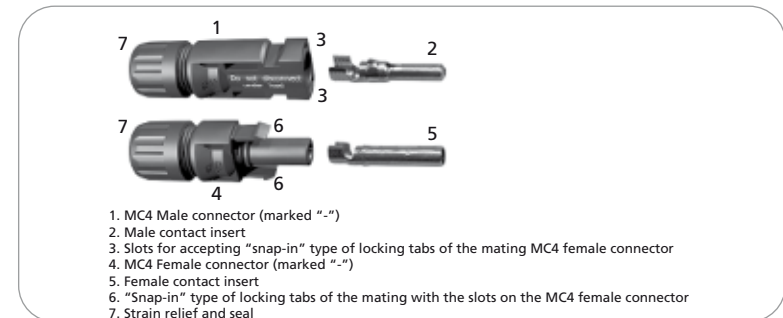

Fig. 1 . MC4 Male and Female Connectors
### MC4 Connectors (Fig. 1)
In the MC4 Male Connector (1 of Fig. 1), the internal mating contact insert (2, Fig. 1) is a male pin. It has two slots (3 of Fig. 1) for insertion of the two "snap-in" type of locking tabs (6 of Fig. 1) of the MC4 Female Connector (4 of Fig. 1) for firm mating connection. This connector is marked "-".
In MC4 Female Connector (4, of Fig. 1), the internal mating contact insert (5 of Fig. 1) is a female cylindrical socket. It has two "snap-in" type of locking tabs (6 of Fig. 1) that are inserted into the two slots (3 of Fig. 1) in the MC4 Male Connector (1 of Fig. 1) for firm mating connection.
Wire is crimped to the contact inserts (2 and 5 of Fig. 1) using a special purpose crimping tool designed for MC4 connectors. After the wire has been crimped, the contact insert is required to be seated securely inside the housing and the strain relief / seal (7 of Fig. 1) is to be tightened fully to provide a water-tight seal.
Each Branch Connector has 3 branches - two on the one side & one on the other. The branches could be "male" or "female". The construction of the branches is similar to the construction of the MC4 connectors shown in Fig. 1. In a branch connector, all the 3 branches are internally connected in parallel.
4. Crimp the male and female contact inserts (2 and 5 of Fig. 1) to the bare ends of the wire with the help of special purpose crimping tool meant for the MC4 connectors.
5. Install the contact inserts inside the housing of the MC4 connectors and tighten the strain relief / seal (7 of Fig. 1) fully to ensure a watertight seal.